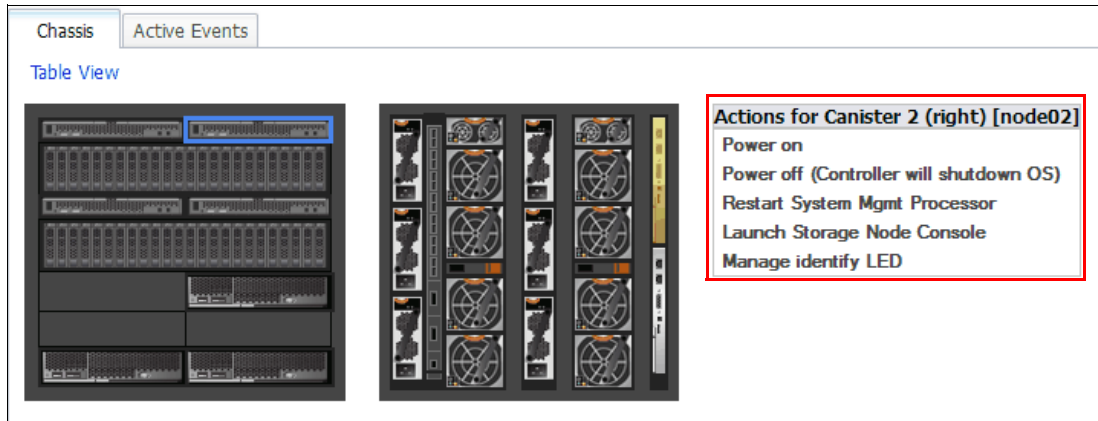

Figure 13-24 CMM chassis map - action pop-up window
- Right-click a component to access an action pop-up window, as shown in Figure 13-24 on page 551.